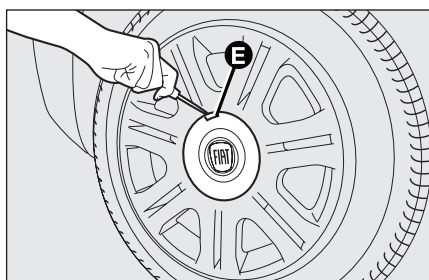

fig. 12
- ☐ for cars fitting alloy rims, remove the hub cap using the screwdriver provided levering in groove **E**-fig. 12 as shown in the figure;